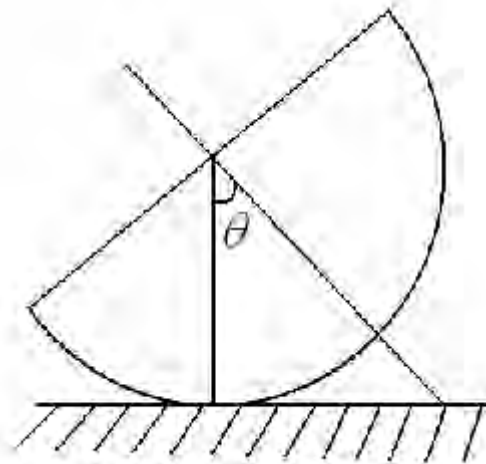

Figure 7:
7. Find the natural frequency of vibration of a half solid cylinder when slightly displaced from equilibrium position and released as shown in Figure 7. [16]